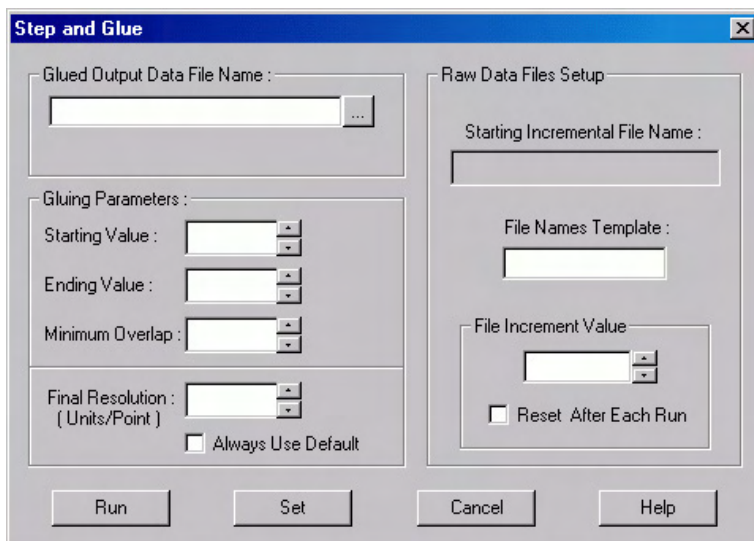

Figure 145. Step and Glue Setup dialog box
4. From the Acquisition menu, select **Step and Glue**. The Step and Glue dialog box (Figure 145) will appear. *For more information, see the online Help for this dialog box.*